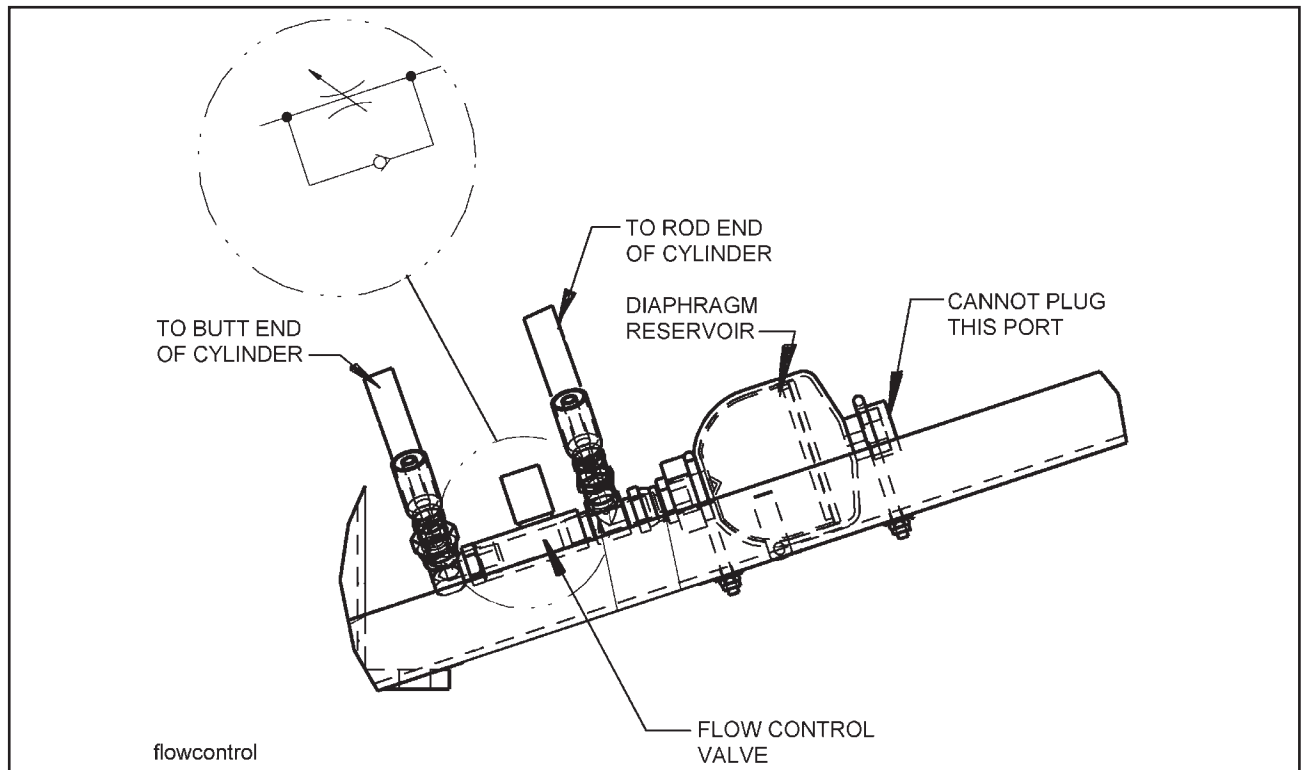

Figure 4-2 Flow Control Valve Installation
4-13.1 Make sure flow control valve and diaphragm reservoir are plumbed correctly (**See Figure 4-2**). Open flow control valve. With cylinder retracted, connect a hydraulic tank that can be pressurized to tee at butt end of cylinder. Crack open fitting at diaphragm reservoir to let air out. Apply air pressure to hydraulic tank to force hydraulic oil through the hoses. When oil starts coming out of fitting at diaphragm reservoir, crack open fitting at rod end of cylinder and slowly extend rod of cylinder. When oil starts coming out fitting at cylinder close fitting at diaphragm reservoir and crack open other fittings at flow control valve to get air out of them. Allow oil to come out of them for a half minute, then close all fittings.
- a. Make sure flow control valve is installed as shown in **Figure 4-2**.
- b. Make sure hoses go to correct locations as shown in **Figure 4-2**.